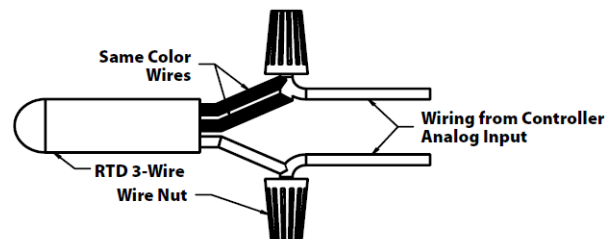

Figure 3
Open the cover of the enclosure. ACI recommends 14 to 22 AWG twisted pair wires or shielded cable for all sensors. Signal wiring must be run separate from low and high voltage wires (24/120/230VAC). All ACI thermistors and RTD temperature sensors are both non-polarity and non-position sensitive. Thermistor sensors are supplied with (2) flying lead wires, and RTD's are supplied with (2) or (3) flying lead wires – see Figure 3. The number of wires needed depends on the application.